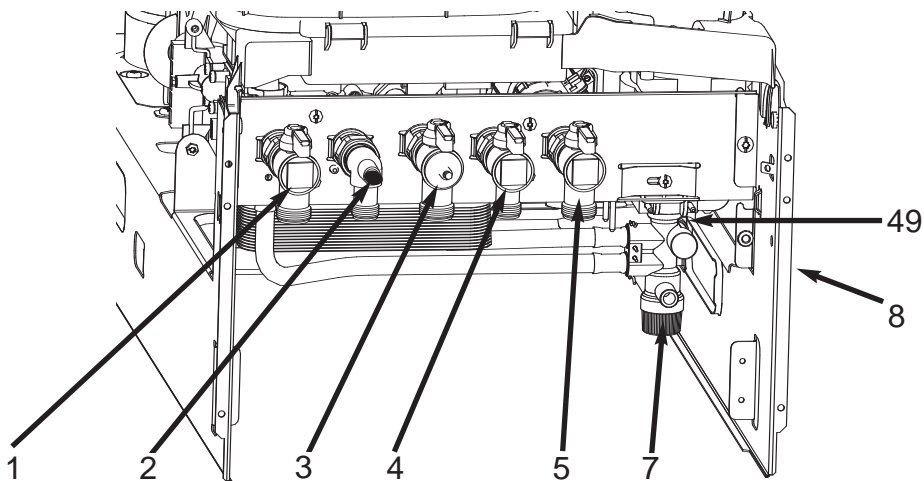

Fig. 2
- 2) Turn the gas tap 3 Fig. 2 OFF.